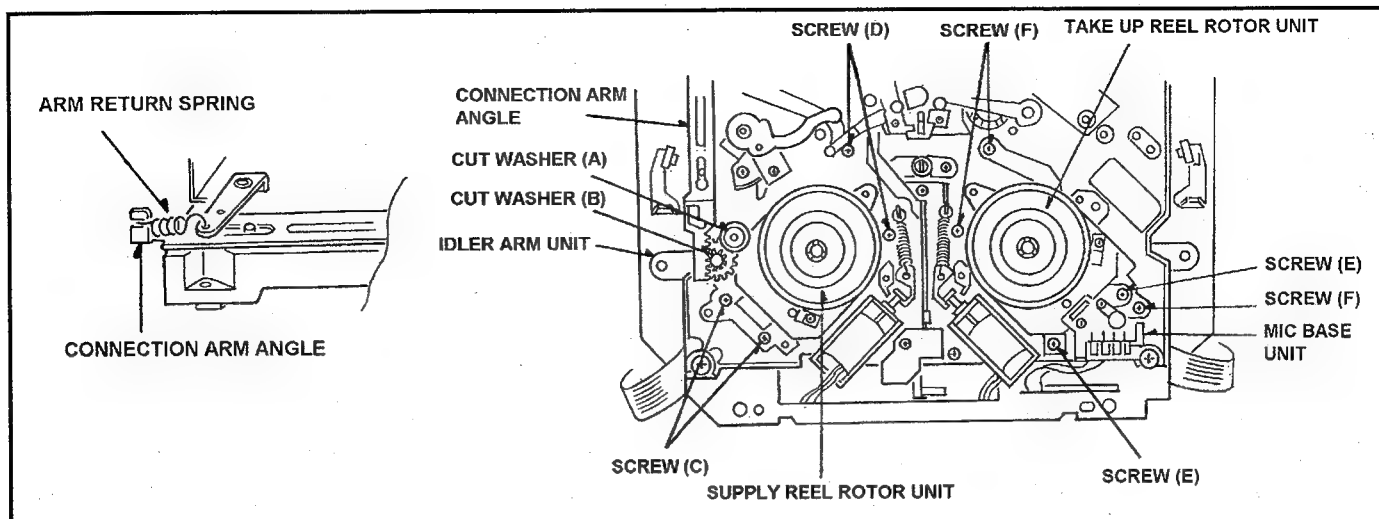

Fig. 10-3-2 Removal of Supply & Take Reel Rotor Unit
4. Remove the S5 Post (Refer to item 10-14).
7. Remove the **Cut Washer (A)** and **(B)** to remove the Idler Arm Unit as shown in Figure 10-3-2.
8. Unscrew the **4 screws (C)** to remove the Supply Reel Rotor Unit as shown in Figure 10-3-2.
3. Remove the Mechanical Chassis Unit (Refer to item 11-4).
4. Disconnect the **connector P615** on the **Servo P.C.Board** and unscrews **the 2 screws (E)**, and then remove the MIC Base Unit.
5. Unscrew the **3 screws (F)** to remove the Take Up Reel Rotor Unit as shown in Figure 10-3-2.